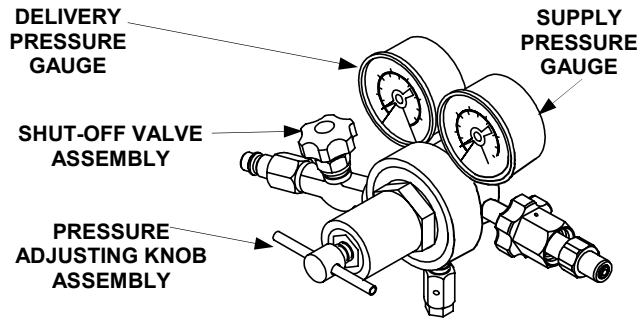

Figure 1-4 Diaphragm Type Pressure Regulator
b. A diaphragm type standard pressure regulator (figure 1-4) that reduces inlet pressure of up to 3,000 psi (206.8 Bar) to 135 psi (9.3 Bar). The pressure regulator is designed to mate with a CGA-346 adapter fitting.